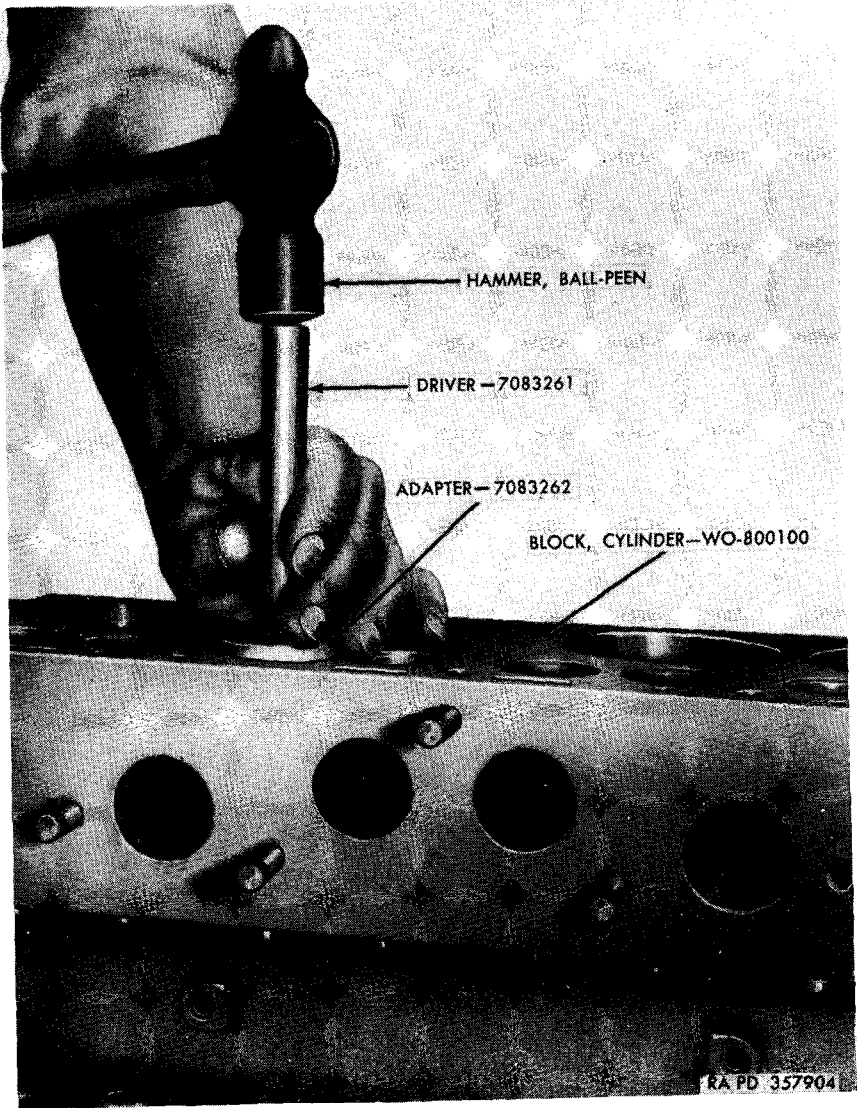

Figure 46. Installing valve guides using adapter 7083262 and driver 7083261.
f. REPLACE VALVE GUIDES. Remove the guides using valve-guide remover and replacer 41-R-2379-25. When installing valve guides, drive all intake and exhaust valve guides into the block using valve-guide remover and replacer 4-1-R-2379-25 (fig. 46), leaving a distance of 1 inch from the top of the guide to the top of the cylinder block for exhaust-valve guides, and a distance of $1\frac{5}{16}$ inches for the intake-valve guides.